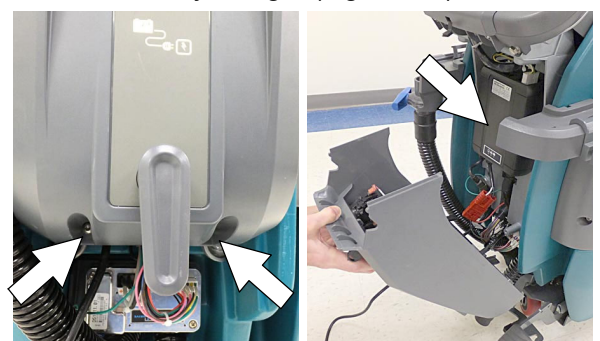

FIG. 116
3. Using a T25 star screwdriver, remove the two screws located at the bottom of the control console to access battery charger (Figure 116).